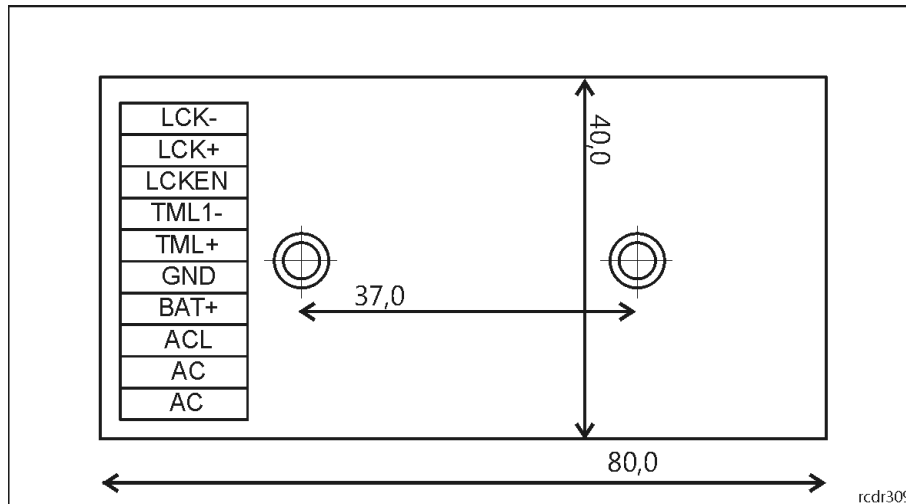

Fig. 4 PS1A-LCK board.
4. Specify unoccupied RS485 address in range of 100-115 and according to your requirements enable readers and configure input types (e.g. NC type for IN6 as in fig. 4), etc.